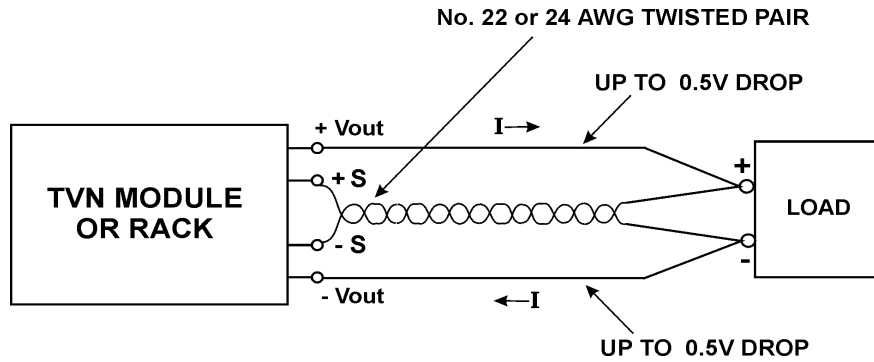

Figure 7. Remote Sensing Connection
13.6 Remote Sensing. Remote sensing connections are made to pins 1 (+Sense) and 2 (-Sense) of the rack J5 connector for each module. Remote sensing is used to regulate the output voltage at the point of load by compensating for the voltage drop in the wires to the load. The +Sense lead must be connected to the + side of the load and the -Sense to the - side of the load. The sense leads should be a color-coded, twisted pair of AWG no. 22 or 24 copper wire. See Figure 7.